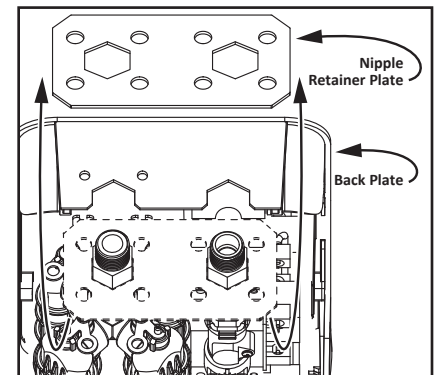

Figure 32 - Nipple retainer plate removal.
8 Remove the nipple retaining plate by gently pulling the top of the assembly until the nipple retaining plate has cleared the back plate. Remove the nipple retainer plate and place it out of the way. See Figure 32.
- 4 Reinstall the nipple retainer plate and position/seat the assembly into place. See Figure 32, page 22.
- 5 Secure the inlet in place with the heat-sink/inlet tube brackets. Hand tighten the Phillips screws in place, **DO NOT** over tighten. See Figure 32, page 22.